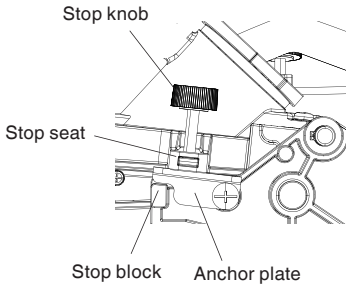

Fig. 19-b
- (2) Setting the maximum height travel of the cutting head, follow the below steps: (Fig. 19-b)